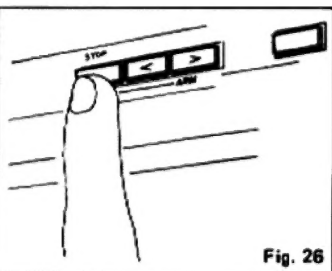

Fig. 26
7. At the end of the disc the tonearm returns automatically to the rest and the platter stops. To stop disc playback, press the STOP button. Then the platter stops and the tonearm returns automatically to the rest. (Fig. 26)